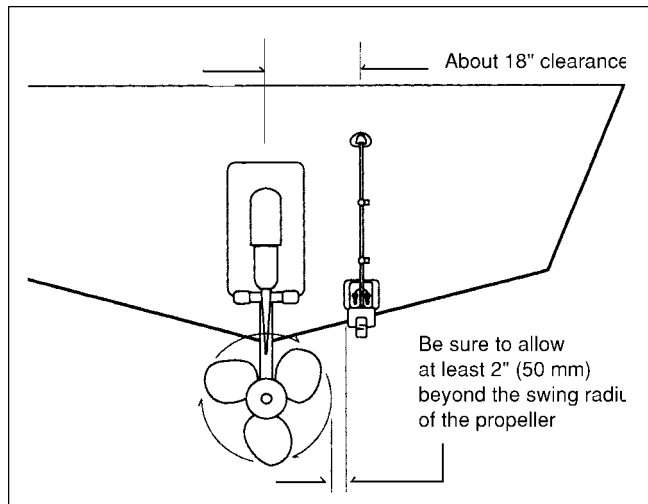

Fig. 2-3
- If your boat has one propeller (outboard or inboard-outboard), mount the transducer about 18" (455 mm) to the side of the centerline of the boat. See Fig. 2-3. Choose the side that is on the downstroke of the propeller. (This is usually the starboard side of the boat.) This will reduce interference caused by air bubbles.